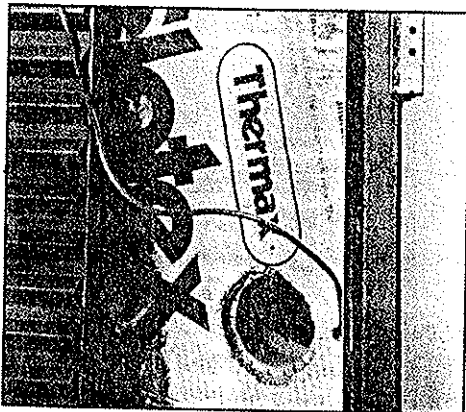

Figure 4
6. Set the box in the location that you have in mind. Determine where the hole should be located at the edge of the panel that will allow the five inch round sheet metal pipe that connects to the solar panel to enter the house. The hole for the electrical wiring should also be determined at this time. It is a good idea to run the electrical wiring through the same joist space as the round pipe. The hole for wiring should be 3" inches to the left or right of the hole for the sheet metal round pipe. Fig. 4